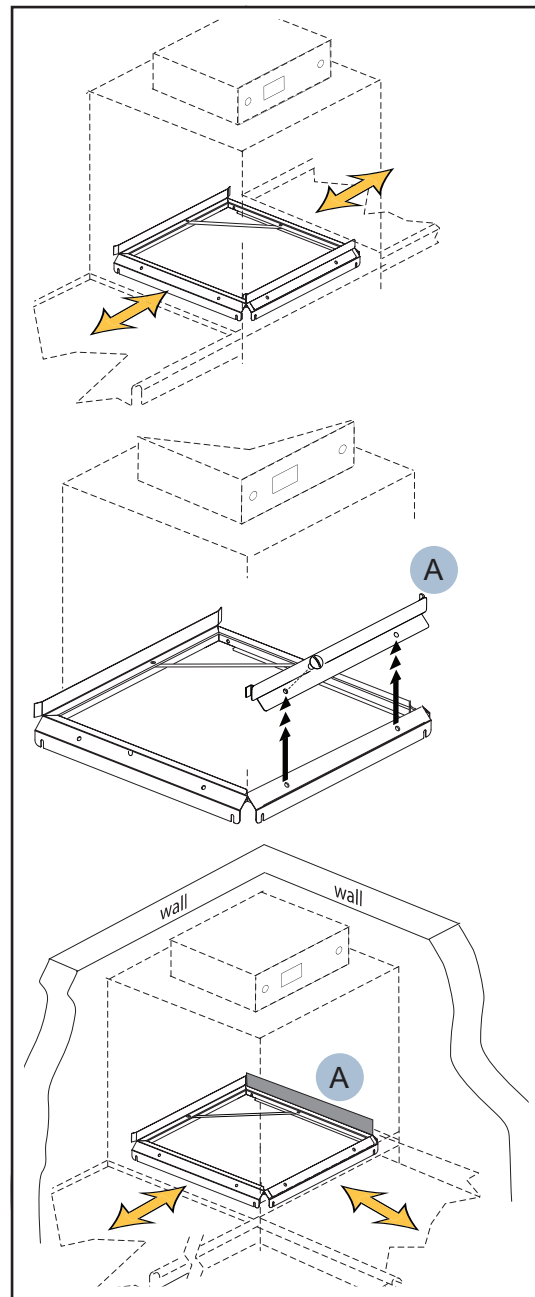

Fig. 4 - Rack Guide (A) Relocation
1. Remove the rack guide (A); save the fasteners. Move (A) and re-attach as shown (see Fig. 4).